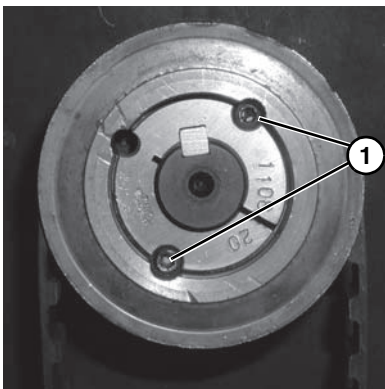

Figure 10
- Tighten driven pulley taper-lock screws (**Figure 10, item 1**).